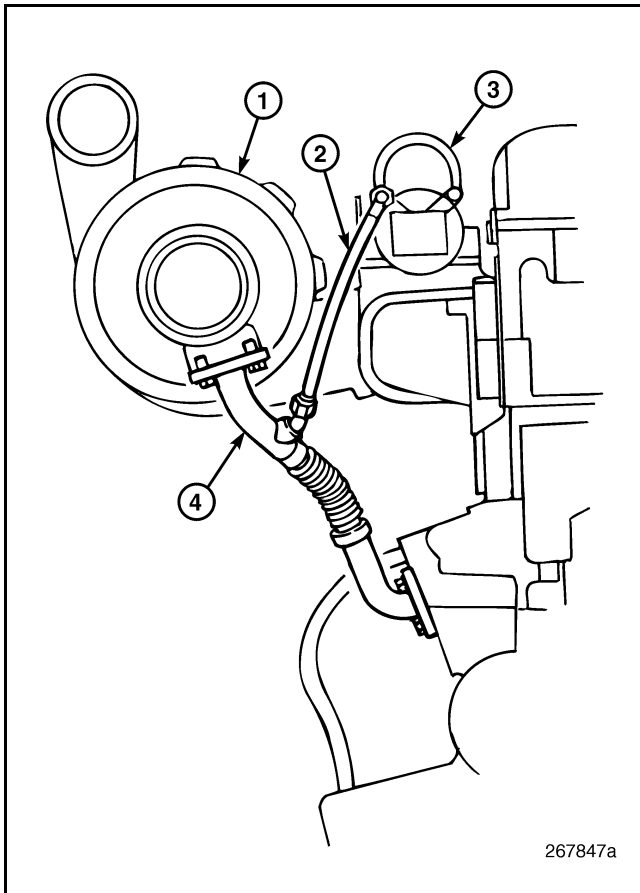

Figure 515 — Turbocharger Oil Drain
5. Remove the two capscrews securing the oil drain tube at the bottom of the turbocharger center housing (Figure 515).
8. Install the oil drain tube (Figure 515) and tighten the capscrews to the specification, 15 lb-ft (20 N•m), using torque wrench J 24406, or equivalent.